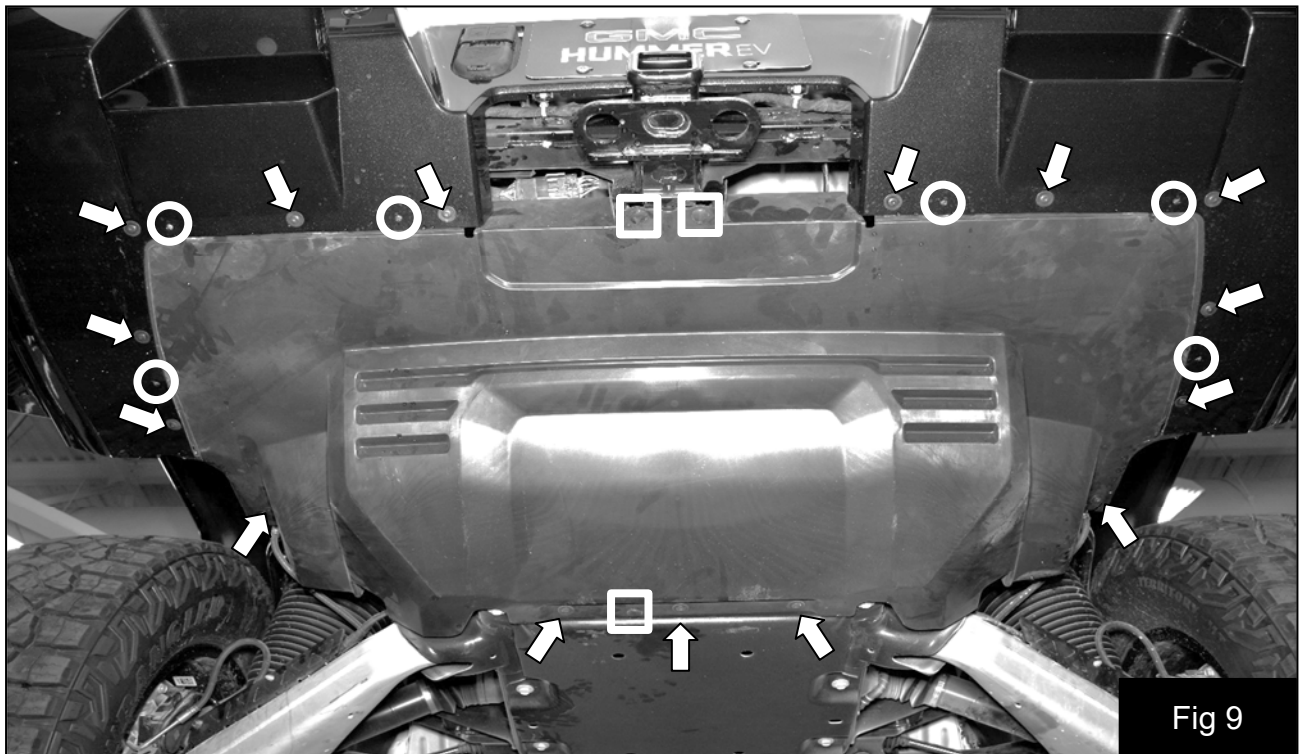

Fig 9
11. Remove the rear plastic under-chassis cover by first removing the 21 fasteners indicated by the arrows. Next, remove the 6 hidden fasteners indicated by the circles. These fasteners are accessed through holes in the surrounding panel. Finally, remove the three plastic retainers and remove the under-chassis cover. Fig 9